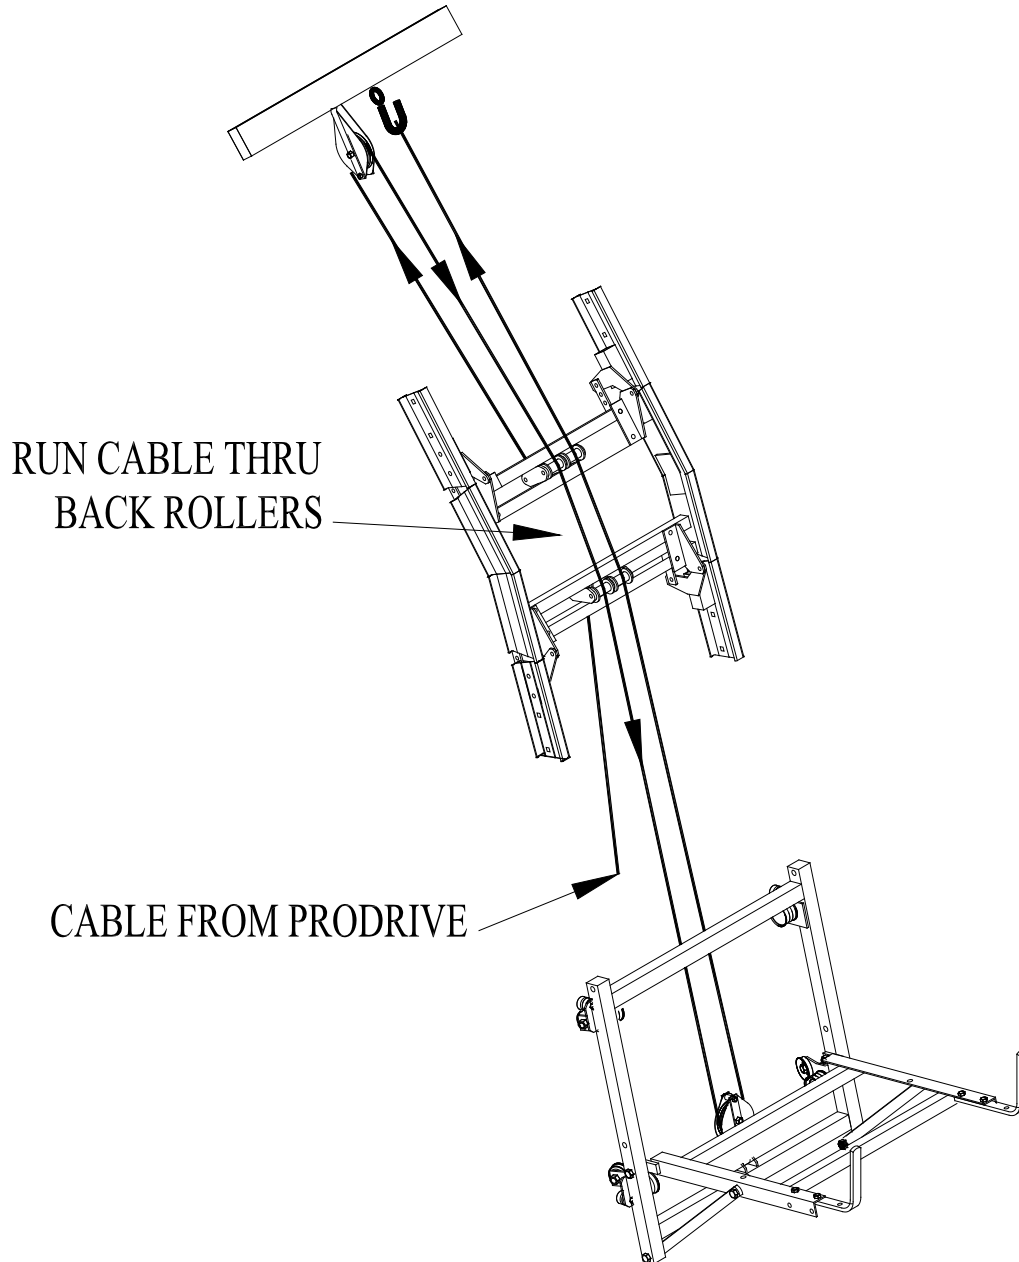

Figure 3-4.
2. Refer to figure 3-4. To reeve the hoist, tie a tether rope, lowered from the roof, to the wire rope end, and with the brake released, pull the hoist wire rope to the roof on the underside of the track.